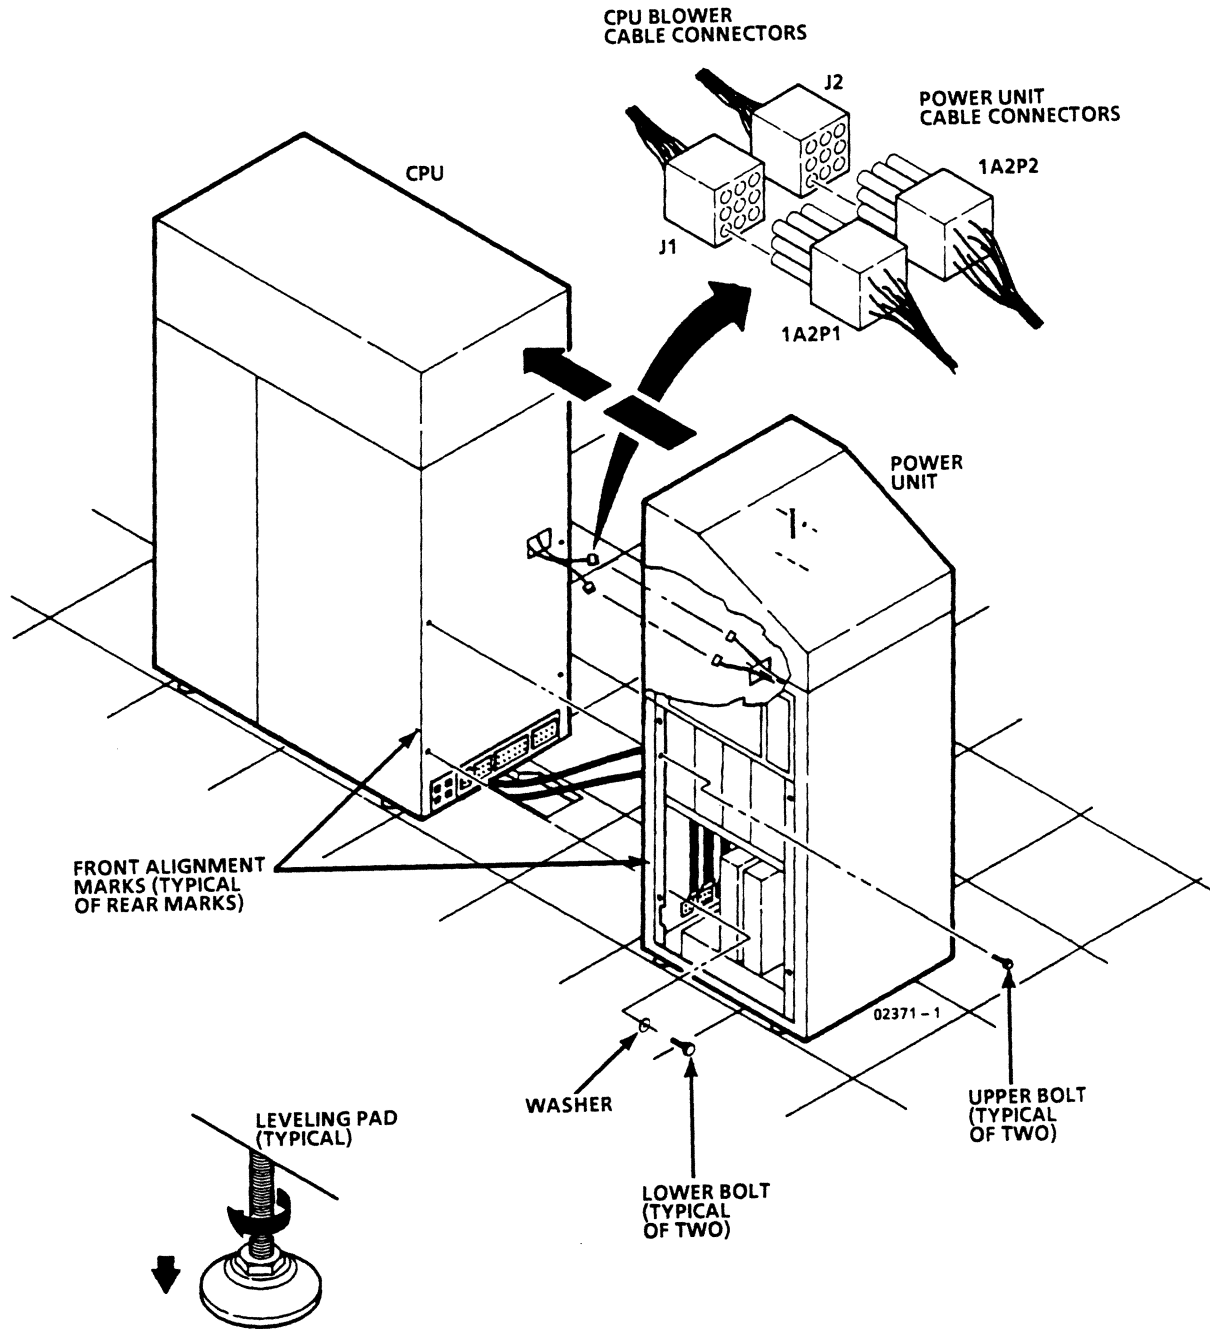

Figure 2-8. CPU Bolting
- ___ 3. Move power unit near to and in line with CPU while routing power cords, if present, into floor cutout (figure 2-8).